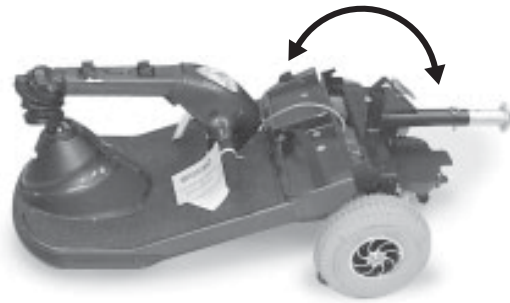

Figure 17. Frame Positioning
1. Push back on the seat post to pivot the scooter's rear section backwards until the rear section is standing vertically on its rear bumper. See figure 17.